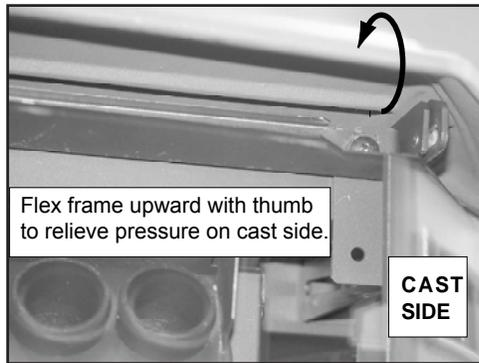

Figure 32.2
- b. With thumb, press upward on the frame to relieve the pressure on the cast side. **Figure 32.2.**